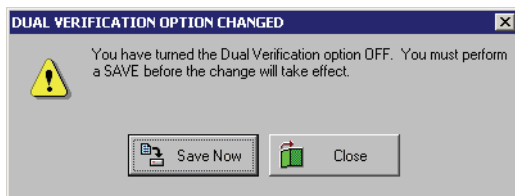

Figure 14-34: Dual Verification Option Changed Window – OFF
2. Click on the **Dual Verification ON** box. The check mark in the box disappears. Because the changes required to implement the dual verification feature make major changes to the *Doors* program and its supporting databases, a confirmation window appears (see Figure 14-34).